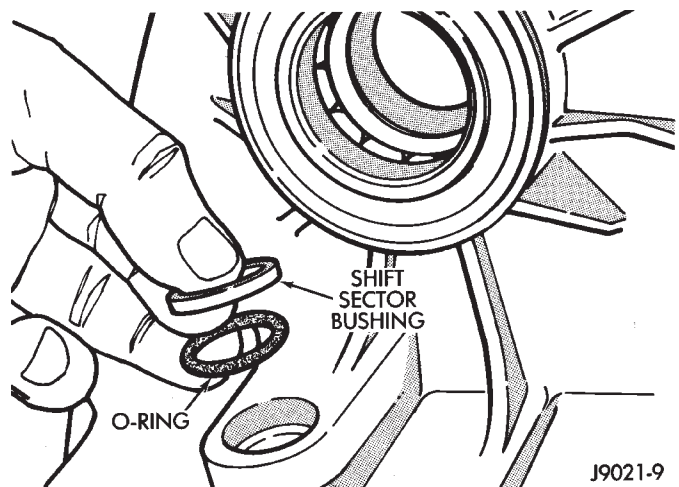

Fig. 47 Installing Sector O-Ring And Retainer Bushing
(1) Install new sector shaft O-ring and retainer bushing (Fig. 47).